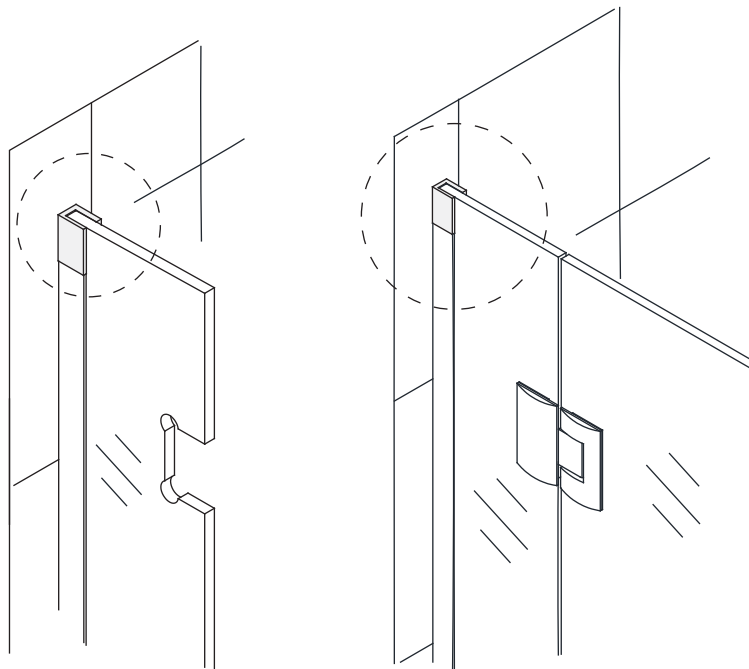

**Fig 11**
**9.** Tighten the rubber-tipped set screws on the **Hinge Panel Glass Bracket (#36)** to secure the glass. **Do Not overtighten!** (Fig 11)